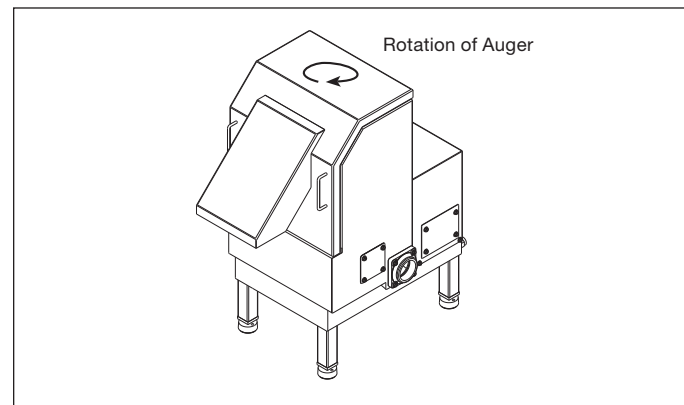

Figure 21.
7. Observe auger rotation by looking up into discharge chute; auger should rotate clockwise (when viewed from above). See Figure 21.